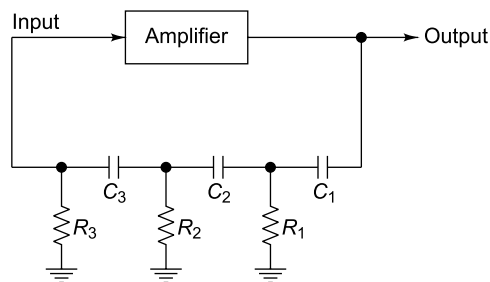

Fig. 3.29
2. The maximum phase shift of the RC network as shown in Fig. 3.29 is